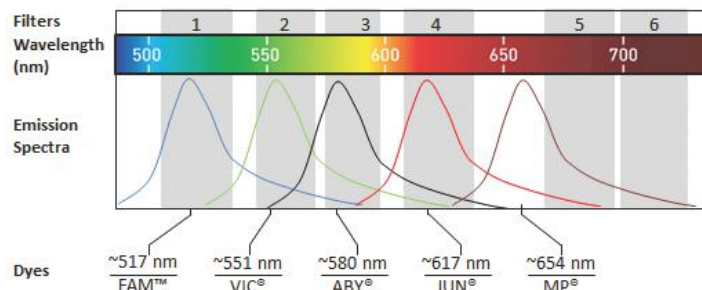

Figure 2. Fluorescence emission spectra of different dyes used for multiplex qPCR.
Figure 2. High sensitivity. DreamTaq Hot Start DNA Polymerase amplifies from lower template amounts than hot-start DNA polymerases from other suppliers. Each set of PCR reactions contained either 3 pg, 30 pg, or 3 ng of human genomic DNA.
Multiplex qPCR requires introduction of new dyes. We have introduced a new multiplexing solution with four reporter dyes, a new quencher, and a new master mix. The ABY® and JUN® reporter dyes complement our existing offering of FAM™ and VIC® reporter dyes for multiplexing. These four reporter dyes with distinct spectra are optimized to work together with minimal spectral overlap (Figure 2). We have developed the new QSY® nonfluorescent quencher in order to facilitate multiplex qPCR with the four dyes. Finally, we have developed a new TaqMan® Multiplex Master Mix to be compatible with these four reporter dyes and that gives accurate and precise results. The master mix uses MUSTANG PURPLE® (MP) as a passive reference dye and AmpliTaq® UP polymerase, which only requires a 20-second activation time. This multiplexing solution is compatible with the QuantStudio® 6, 7, and 12K Flex systems, as well as the ViiA™ 7 and 7500/7500 Fast Real-Time PCR Systems.
The multiplex format enables cost savings and preservation of limited sample, but it's important to obtain the same sensitivity as in the singleplex format. Figure 2 demonstrates comparable results between reactions performed in individual tubes or in 4-plex reactions for a gene quantification experiment.
Figure 2. Comparison of singleplex and multiplex gene expression assays. (A) EGFR assay, FAM dye; (B) BRCA1 assay, VIC dye; (C) ESR1 assay, JUN dye; (D) RNase P assay, ABY dye. Amplification was performed on the QuantStudio 7 Real-Time PCR System using TaqMan Multiplex Master Mix. The figure shows amplification plots (left) and linear curves (right) for 4 assays amplified in singleplex (blue) and 4-plex reactions (red) in a dilution series from 20,000 pg to 2 pg of reference colon cDNA per 10 μL reaction. Average C_q value (lines) and average standard deviation (bars) for the dilution series are represented in their respective graphs and show the concordance between singleplex and 4-plex reactions. PCR efficiencies are: 96.09% for EGFR singleplex and 96.39% for EGFR 4-plex; 93.56% for BRCA1 singleplex and 94.93% for BRCA1 4-plex; 97.13% for ESR1 singleplex and 95.81% for ESR1 4-plex; 96.91% for RNase P singleplex and 98.1% for RNase P 4-plex.